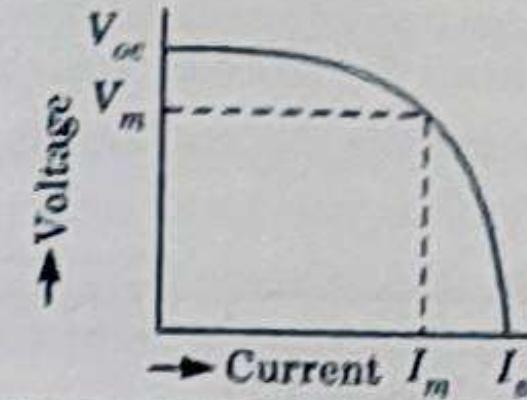

Fig. 1.12.1. Voltage-current (*V-I*) characteristic of a solar cell.
1. The electrical characteristics of a solar cell are expressed by the voltage current (*V-I*) curves plotted under a given illumination and temperature conditions as shown in Fig. 1.12.1.
2. In Fig. 1.12.1, the maximum useful power of the cell is represented by the rectangle with the largest area.